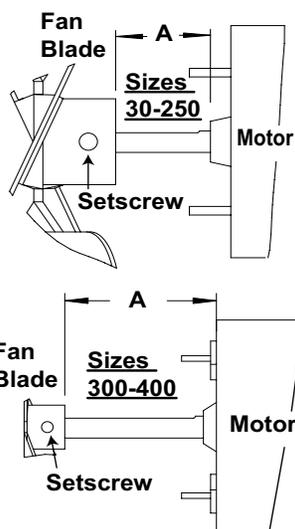

Figure 23. Fan Blade Positioning and Spacing
6. Ensure that fan blade is in proper position on shaft (see Figure 23) and that blades are properly spaced (refer to Table 19).
*See Figure 23.